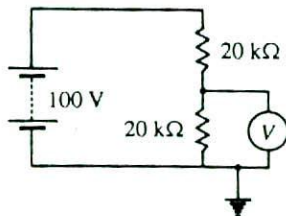

Fig. 24.25
1. A voltmeter is used to measure voltage across $20\text{ k}\Omega$ resistor as shown in Fig. 24.25. What will be the voltage value if (i) voltmeter has infinite resistance (ii) voltmeter has a sensitivity of $1000\ \Omega$ per volt and reads 100 V full scale? [(i) 50 V (ii) 45 V]
3. If the sensitivity of voltmeter in Fig. 24.25 is $500\ \Omega/\text{volt}$ (Full-scale reading being 100 V), what will be the reading of the voltmeter? [41.7 V]